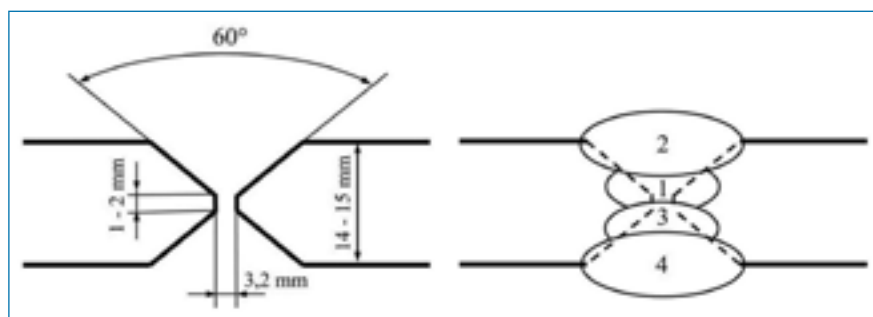

Figure 1: Joint design and layer sequence.
The base metal (BM) plates were cut into sizes of 500×160 mm and machined to an X-groove butt joint configuration as shown in Figure 1. Welding was carried out in the vertical up position (PF/3G) with the Fronius TransPuls Synergic 4000 system using direct current electrode positive (DCEP) FCAW. The shielding gas was Ar+18% CO₂ with a gas flow of 16 l/min. The joint design and layer sequence are illustrated in Figure 1. After welding the first side (Layers 1 and 2), the root pass was ground back from the other side to ensure proper fusion.